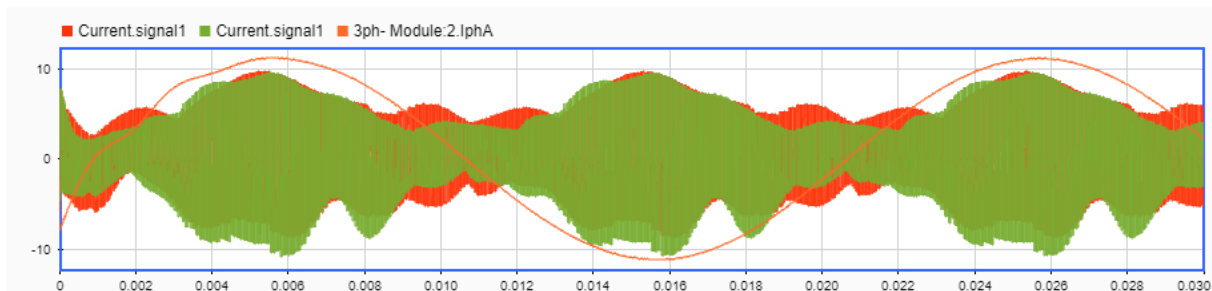

Figure 11: Capacitor Current Waveform with (red) and without (green) Module Connection Inductances
- In Figure 11, it is seen that a phase stress increases with connection inductance when the other phase currents are around their peak.